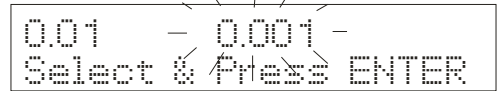

Figure 84
4. Press  $>/CAL$  to toggle between *0.01* and *0.001*. The resolution selected will flash. See **Figure 84**.